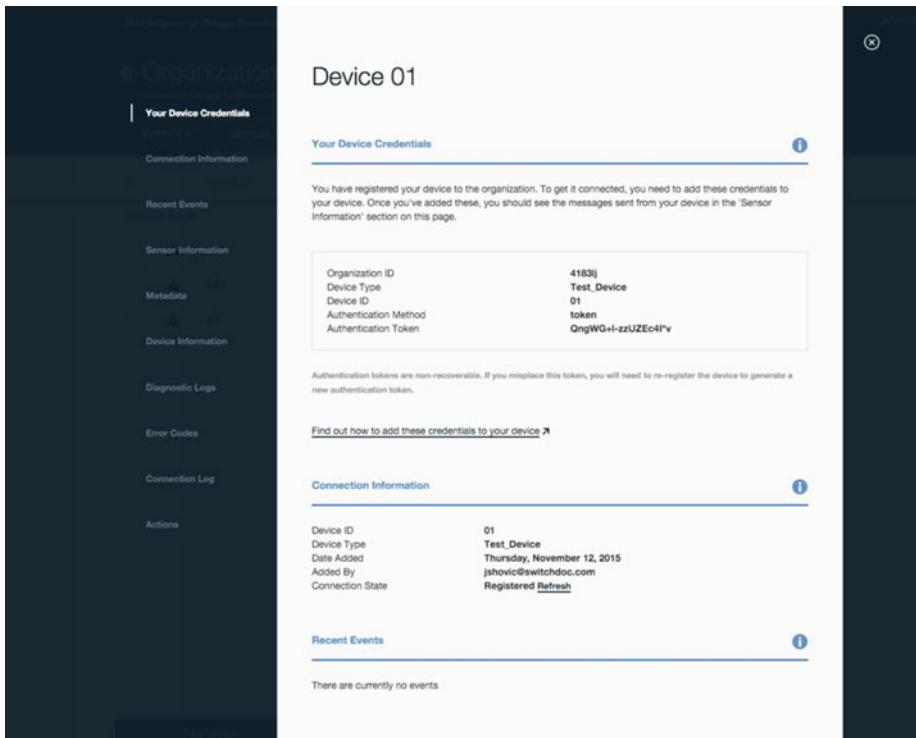

Figure 5-16. Bluemix Credential Screen
When the device has been created, you'll see the Device Credentials page. Be sure to save those details, as they are used to authenticate your ESP8266 Arduino IDE sketch in in the next step (we have not found any way of recovering these credentials from the Bluemix system). Obviously, don't use the credentials in Figure 5-16. They will not work. You need to create your own.
Step 2: Connect our device to the IoT Real-Time Insights Page by generating an API key and then generating a data source. Click the IoT Real-Time Insights block shown in Figure 5-16.